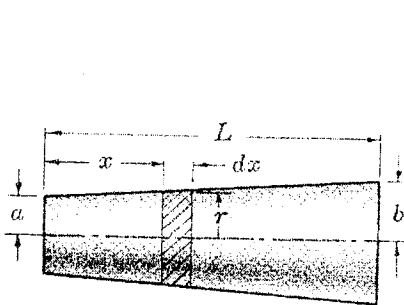

Fig. 1
- As shown in Fig. 1, a solid circular shaft has a slight taper extending uniformly from one end to the other. Denote the radius at the small end by a , that at the large end by b . The radius at the larger end is 1.2 times that at the smaller end. If it is fixed at the larger end and is subjected to a torque T at the smaller end, determine the angle of twist of the smaller end for a given length L . What percentage of error is committed if this angle of twist is calculated using the mean radius of the shaft? The shear modulus is G . (25%)